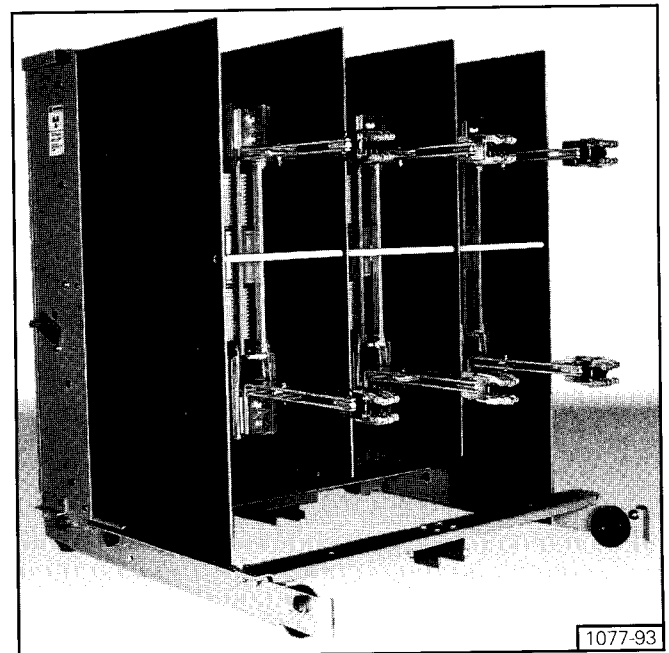
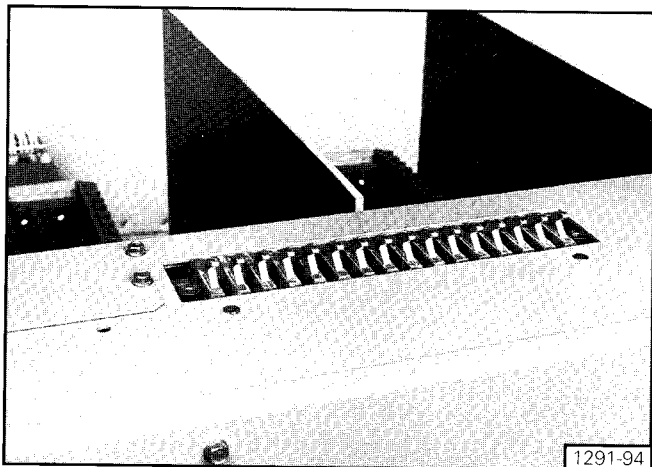

Figure 7. Breaker Primary Disconnects
Figure 23. Secondary Disconnects on Circuit Breaker
2. Check the upper and lower primary studs and contact fingers shown in **Figure 7**. Verify mechanical condition of finger springs and the disconnect studs, check for loose hardware, damaged or missing primary disconnect contact fingers, and damaged disconnect sheds.
3. Coat movable primary contact fingers (**Figure 7**) and the secondary disconnect contacts (**Figure 23**) with a light film of Siemens Contact Lubricant No 15-171-370-002.
Signal and control power is delivered to the internal circuits of the breaker by an arrangement of movable contact fingers mounted on the top of the circuit breaker. These fingers are shown in **Figure 23**.